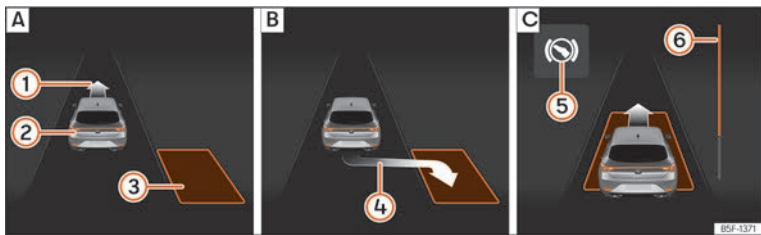
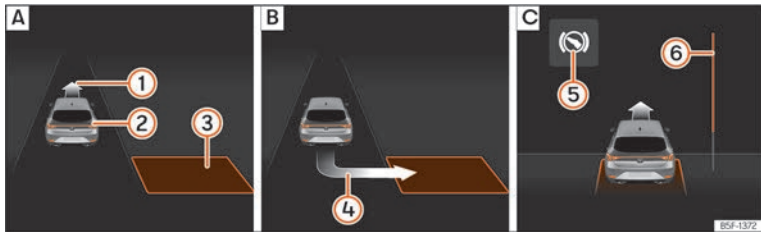

Fig. 153 On the instrument cluster display: angle parking. **A**: Finding a parking space **B**: Parking position. **C**: Manoeuvring.
Fig. 154 On the instrument cluster display: angle parking. **A**: Finding a parking space **B**: Parking position. **C**: Manoeuvring.
- Look at the instrument cluster screen to see if the space has been detected as “appropriate” and if the correct position for parking has been reached >>> Fig. 153 **B** or >>> Fig. 154 **B**. The space is considered “appropriate” if the instrument cluster display shows the parking indication ④.
- Reverse until the continuous ParkPilot signal sounds; **OR:** reverse until the indication to move forward appears on the instrument panel display >>> Fig. 153 [C] or >>> Fig. 154 [C]; **OR:** reverse until the **Park Assist finished** message appears on the instrument cluster display. The progress bar [6] indicates the distance to cover.
- Move forward until the continuous ParkPilot signal sounds; **OR:** move forward until the reverse indication appears on the instrument panel display. The Park Assist system steers the vehicle forward and back until it centres it in the space >>> Fig. 153 [C] or >>> Fig. 154 [C].
The progress bar >>> Fig. 153 [6] and >>> Fig. 154 [6] on the instrument cluster display shows the relative distance to be covered as a symbol. The greater the distance, the fuller the progress bar. When driving forward, the content of the progress bar decreases upwards, and when reversing, it decreases downwards.